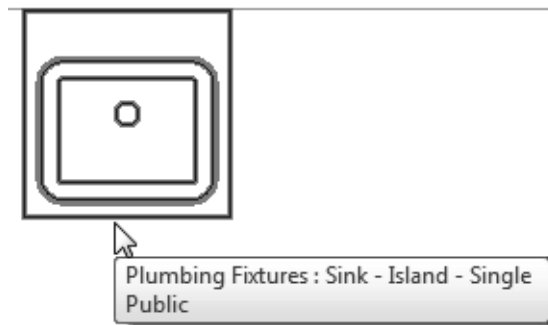

Figure 2–70
2. Which of the following commands imports a component (such as the sink shown in Figure 2–70) that is not available in your project?